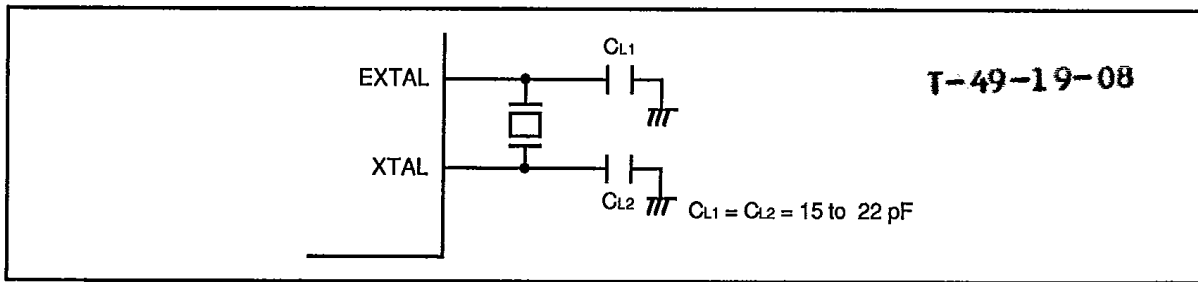

Figure 14-2. Connection of Crystal Oscillator (Example)
① **Circuit Configuration:** An external crystal can be connected as in the example in figure 14-2. An AT-cut parallel resonating crystal should be used.